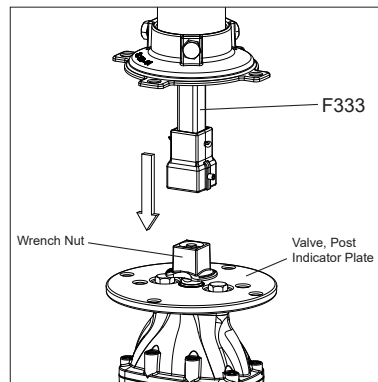

Fig. 4B
4. Holding the Lower Stem (F333) so that it will not slide completely out of the Lower Barrel (F332), lift the post indicator above the valve. (See Fig. 4B)